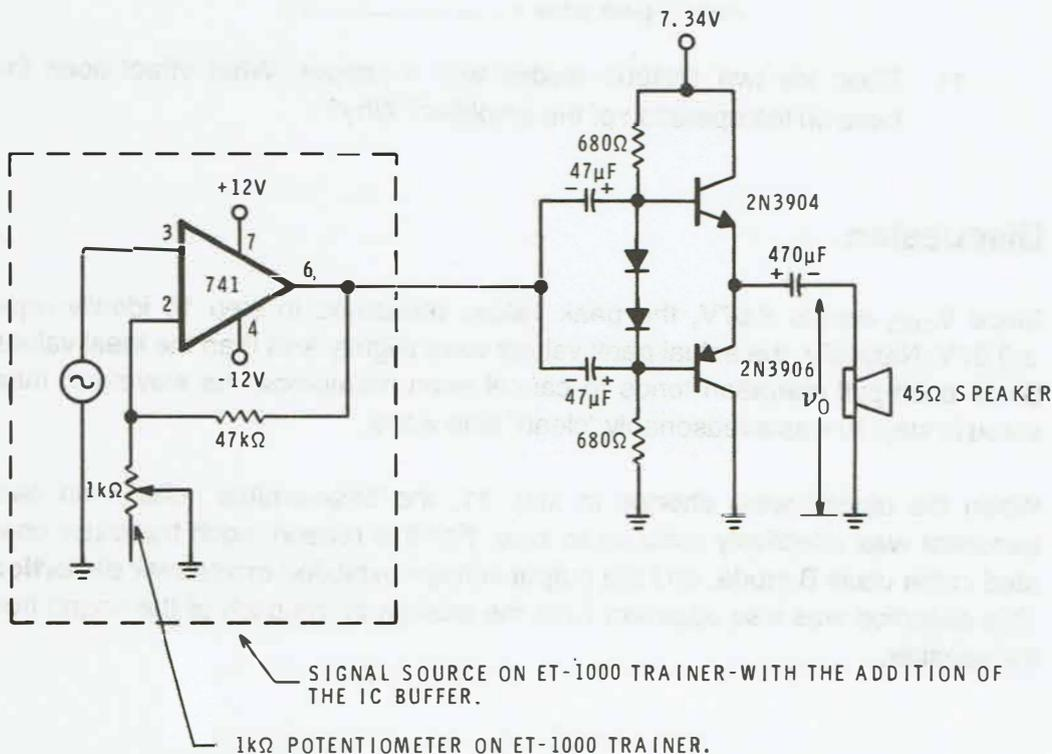

Figure E9-1
As discussed in Unit 5, it is sometimes desirable to drive the amplifier with two input coupling capacitors. Consequently, this design will use three capacitors, two for input coupling and one for output coupling. Figure E9-1 illustrates the design using standard value components.
In Figure E9-1, note that an IC buffer is used between the signal source on the ET-1000 Trainer and the power amplifier.
9. With the power off, construct the circuit shown in Figure E9-1. Pay particular attention to the IC power supply connections and the capacitor polarities. Also, make sure each transistor is properly placed in the circuit.